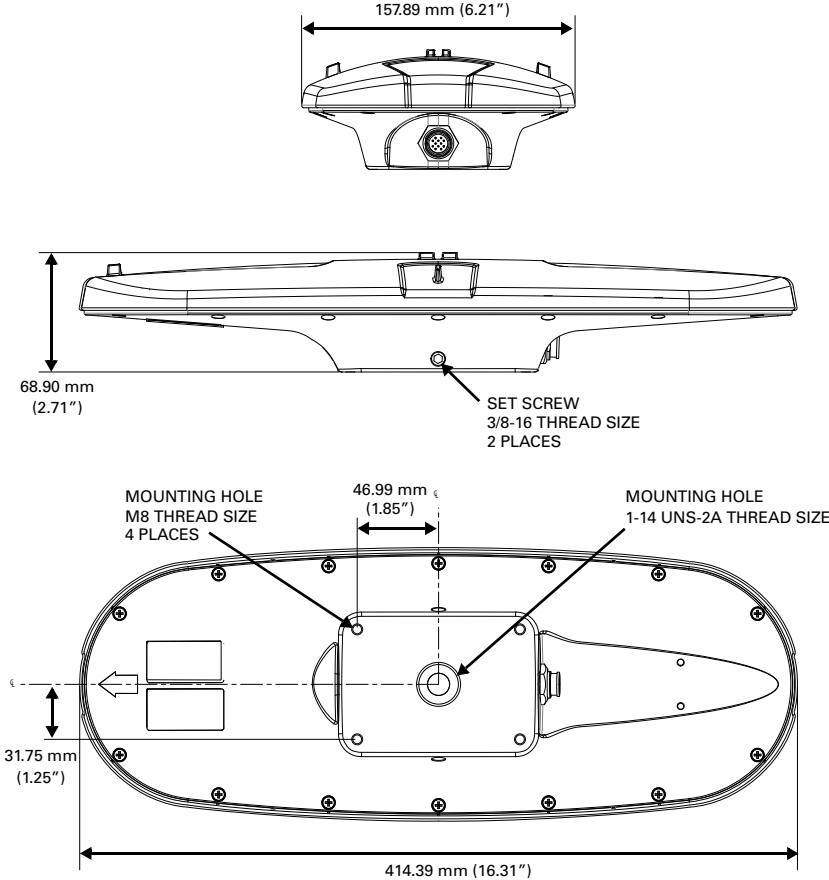

Figure 2-6: V102 dimensions
- Flush mount - The bottom of the V102 contains four M8 holes for flush mounting the unit to a flat surface (see Figure 2-6 on page 13).
- Pole mount - The bottom of the V102 contains a mounting hole (1" thread, 0.9" depth) for easy pole mounting. Hand tighten until snug (do not overtighten). The set screws on the long sides of the base (see middle drawing in Figure 2-6 on page 13) allow you to secure the V102 in place (3/16" Allen wrench not included).
Figure 2-6 illustrates the physical dimensions of the V102.
- Use the set screws on the long sides of the base (see middle drawing in Figure 2-6 on page 13) to secure the V102 in place (3/16" Allen wrench not included)